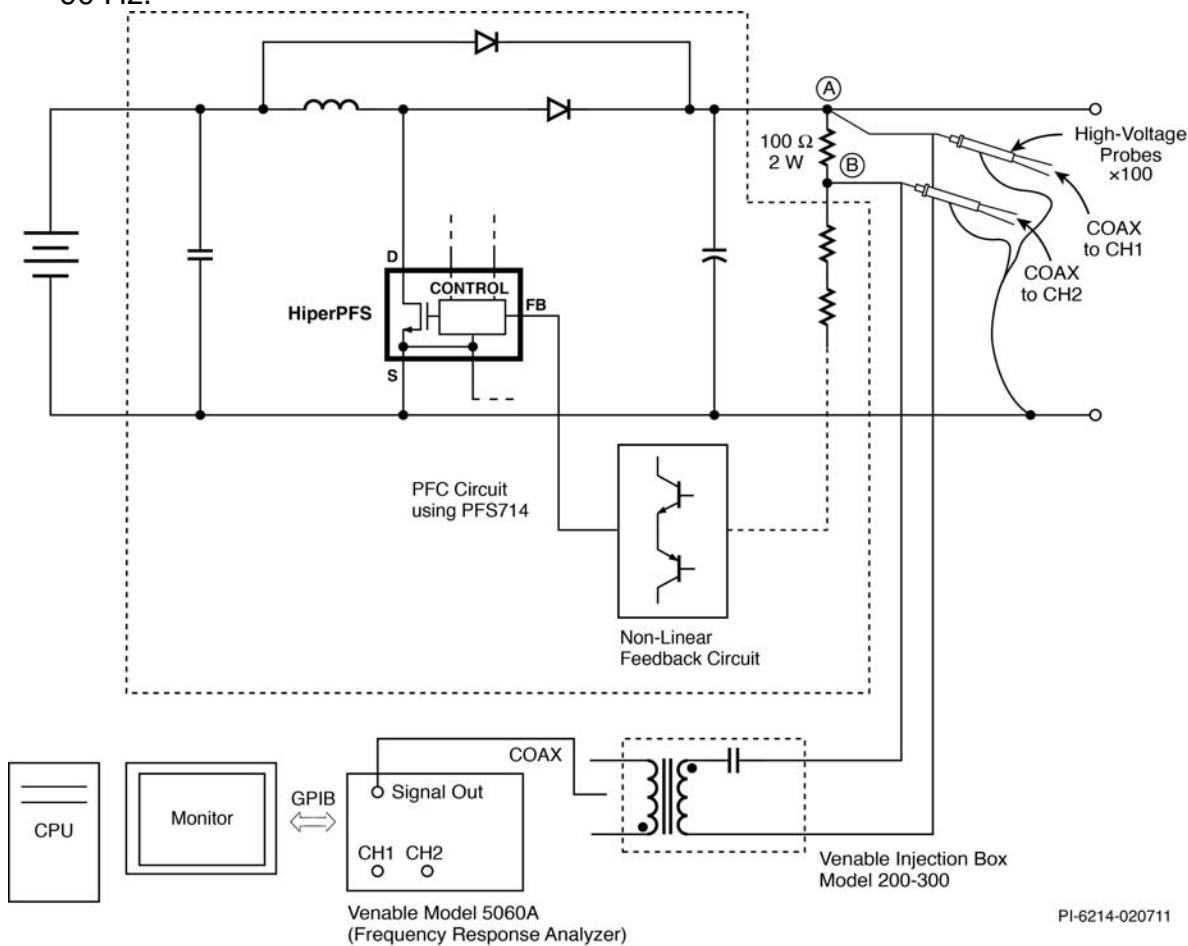

Figure 76 – System Test Set-up for Loop Gain-Phase Measurement.
- The PFC stage is supplied from an adjustable DC source for this test. Connect the circuit as shown in Figure 76. Open the top end of the feedback divider network and insert a 100Ω , 2 W resistor in series as shown. The signal injected in the loop for gain phase measurement will be injected across this resistor.